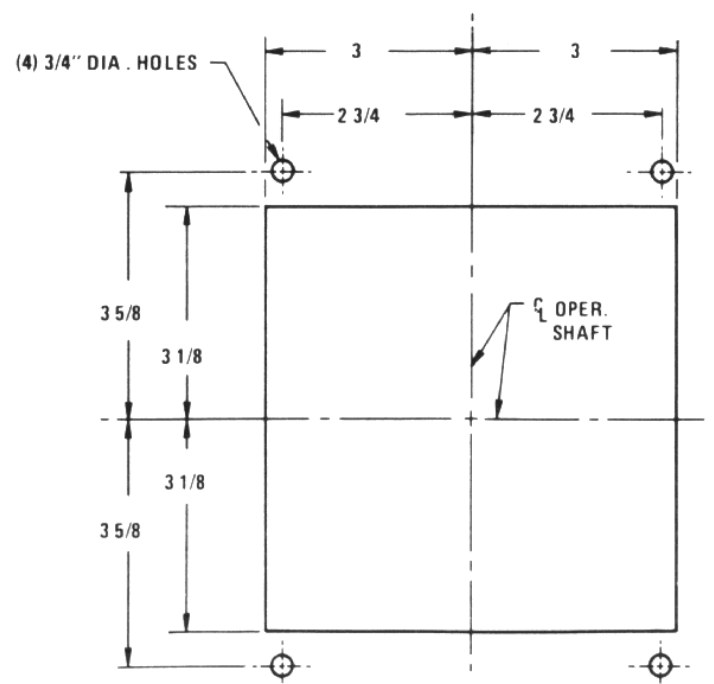

Fig. 8
- If it has not already been done, cut opening and drill or punch four 3/4" diameter holes in right side of enclosure per pattern shown in Fig. 8. (The same information appears on direct drive handle Dwg. 422-446.)